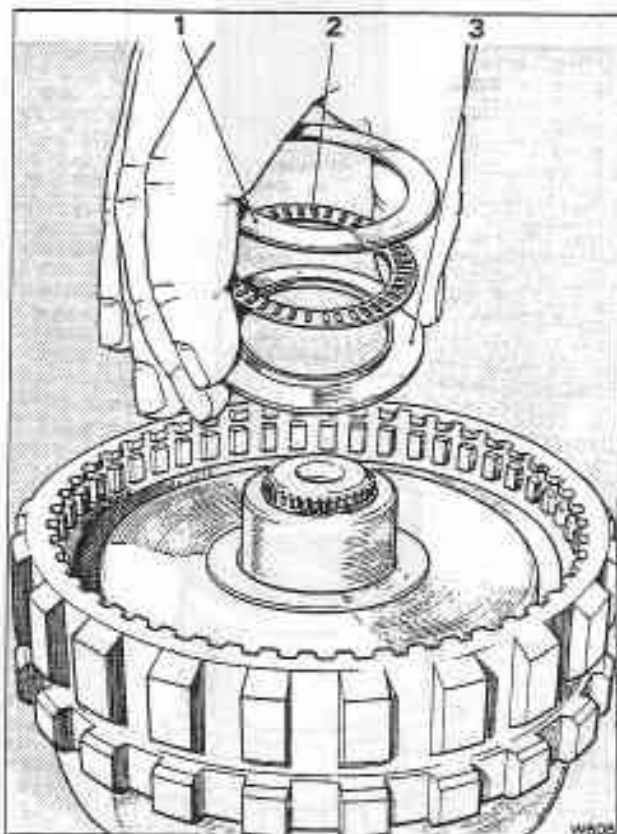

Fig. T20-15 Fitting the races and thrust bearing to the outer face of the rear internal gear
9. Fit the races and thrust bearing onto the outer face of the rear internal gear, retaining them with a smear of petroleum jelly. The small diameter (flanged I/D) race must be fitted first with the flange uppermost (see fig. T20-15).